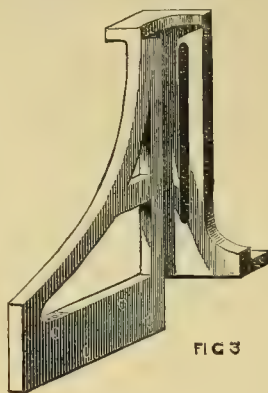

FIG 3
H. H. D. B. writes:—"Seeing the discussion going on at present in your columns concerning lathe-planers, I send a sketch of a separate planer that I have devised, and should be much obliged if some of your readers would give me their opinions upon it. A, A, are two hard wood bars joined together by the cross-pieces B, B, B, B, on the underside, and on the top side by the two pieces C, C, which also support the two parallel bars D, D, on which the table E slides. The two upright frames F, F (a perspective view of which is shown in Fig. 3) carry the cross-piece G G, to which the slide-rest H is fastened. The slide-rest would only be used temporarily to plane the table and the parts for a proper cross-slide like a real planing machine's. I have only shown it for hand feeding, but when the cross-slide is made a self-feeding gear could be added. The bars